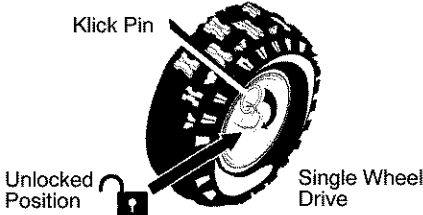

Figure 11
2. For ease of maneuverability in light snow conditions, disconnect the **klick pin** from the wheel **locked position** and push into the single wheel drive position (**unlocked axle hole only**). See Figure 11.